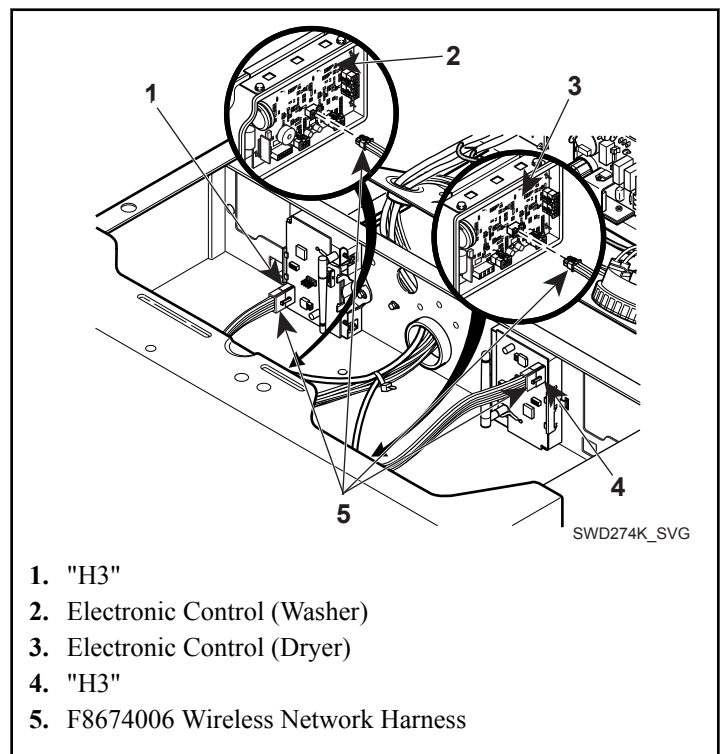
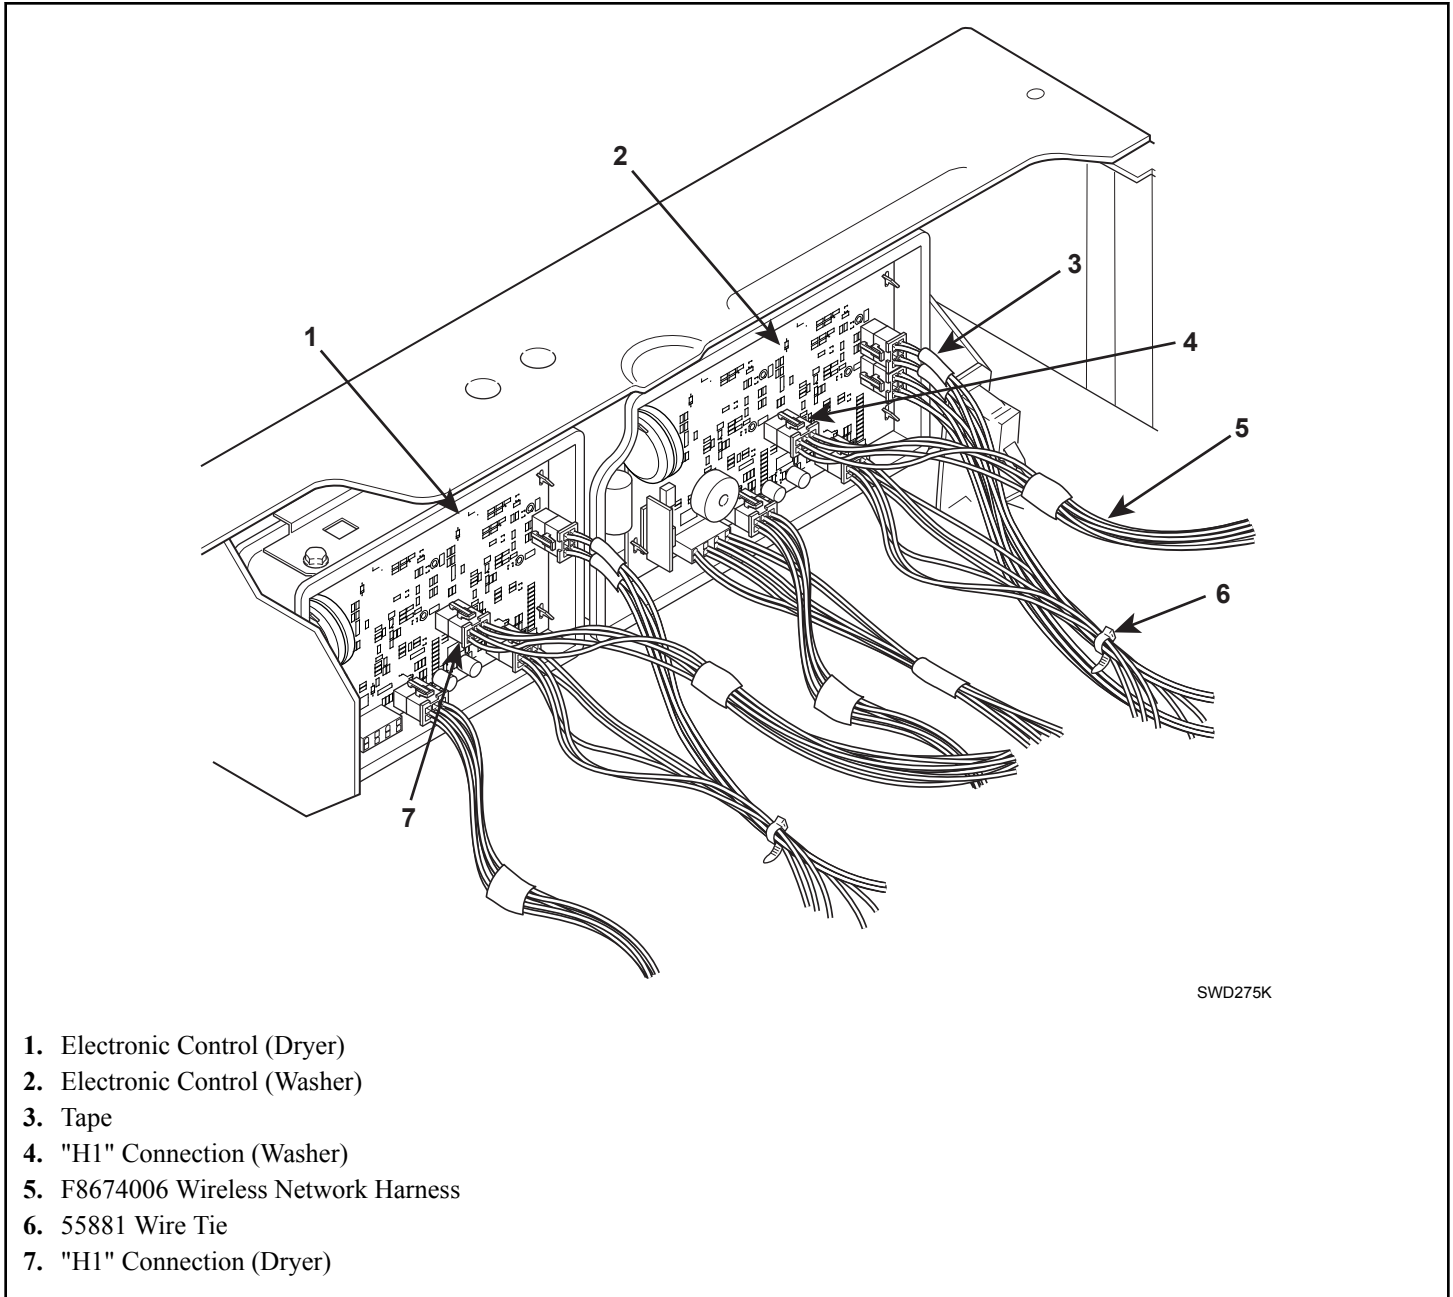

Figure 9
Figure 10
6. Install F8674006 Wireless Network Harness between network board "H3", refer to *Figure 9* , and electronic control "H1". Refer to *Figure 10* .
7. Add one 55881 Wire Tie to backside of electronic control as shown in *Figure 10*.